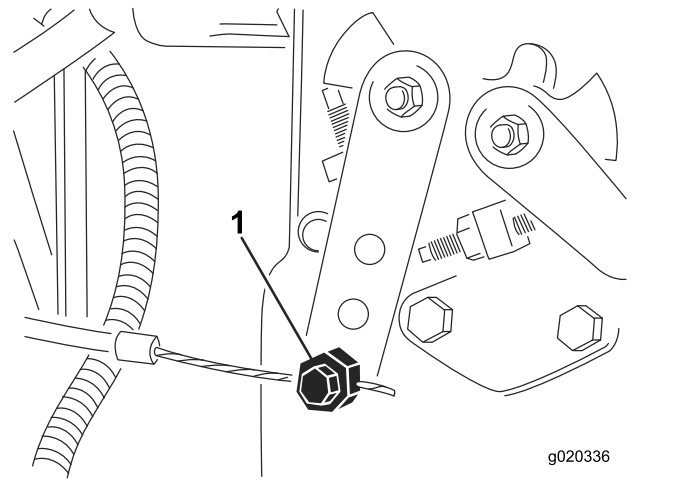

Figure 90
4. Loosen the throttle cable connector on the injection pump lever arm (Figure 90).